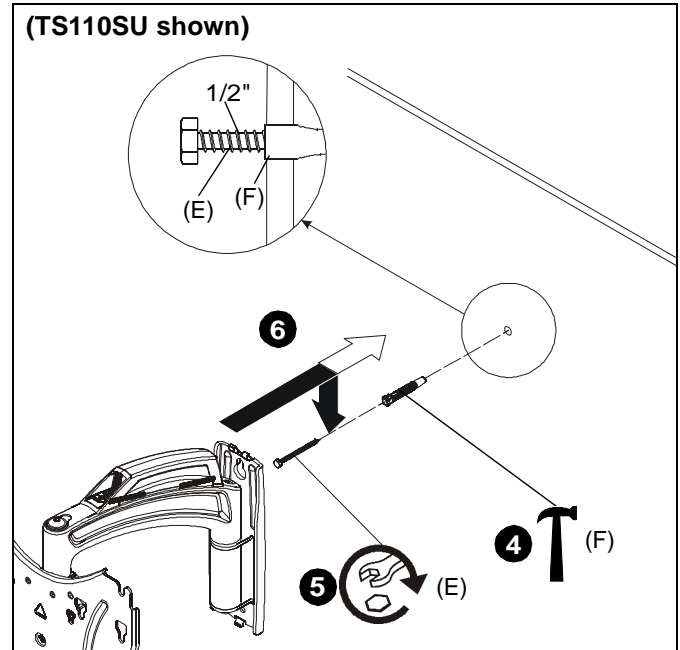

Figure 5
4. Install one concrete anchor (F) into drilled hole. (See Figure 5)
5. Install one 1/4 x 2 1/2" lag bolt (E) into concrete anchor (F), leaving bolt hanging out 1/2" from the wall. (See Figure 5)
6. Hang main assembly (H) onto lag bolt (E) by latching key-shaped hole over top of bolt. (See Figure 5)